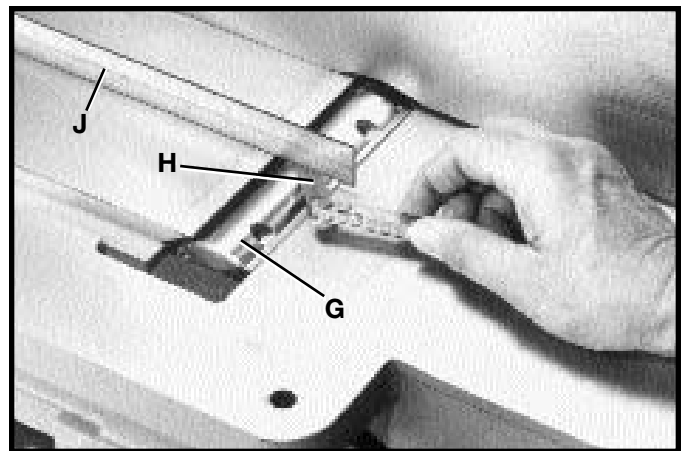

Fig. 60
10. Carefully rotate the cutterhead (G) Fig. 60, until the round portion of the cutterhead is on top as shown.
11. Place a .060" feeler gage (H) Fig. 60, on the cutterhead and using a straight edge (J) on the rear table adjust the height of the rear table until it is .060" above the cuttinghead diameter, as shown.